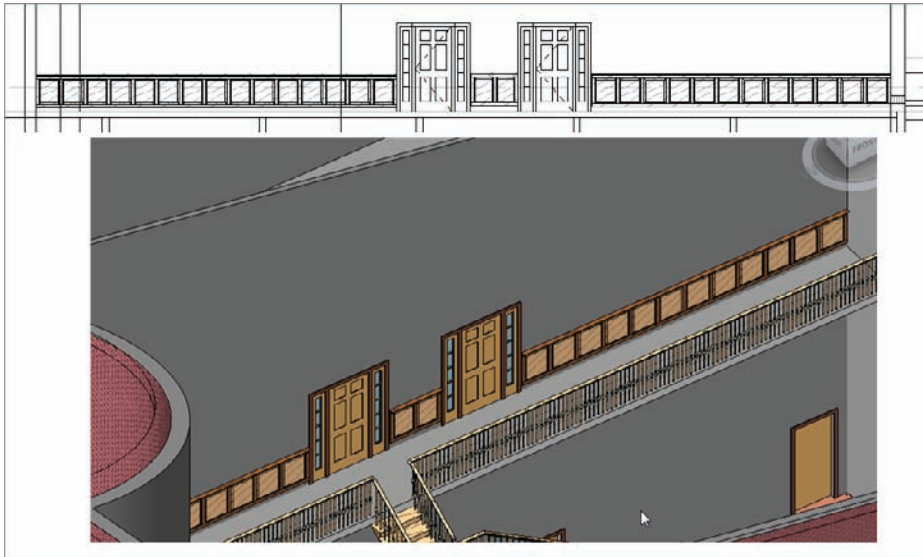

FIGURE 10.80 The finished raised-panel, line-based family
23. Change frame material to Wood - Mahogany. See Figure 10.80.